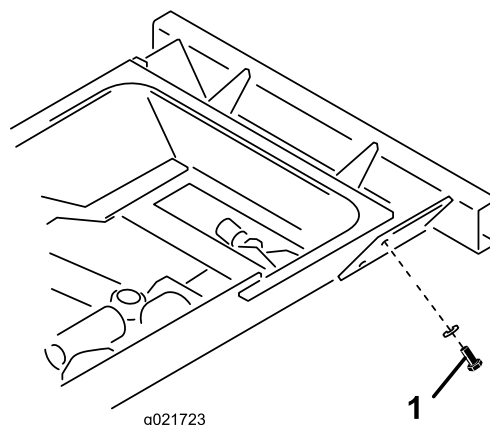

Figure 14
1. Remove the **top** bolt, washer and nut securing the rear bumper bracket to the left frame rail (Figure 14). Retain the bolt, washer and nut.